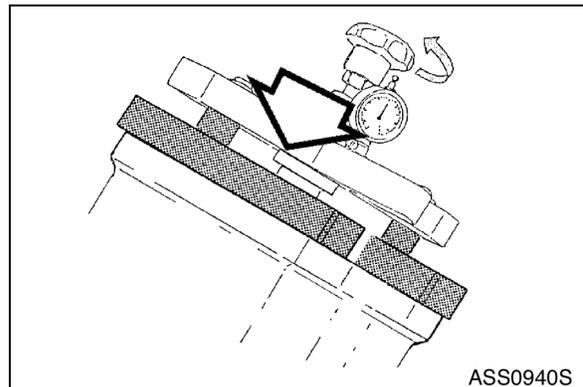

Figure 95
B. Size 140 - 200 (Figure 95).